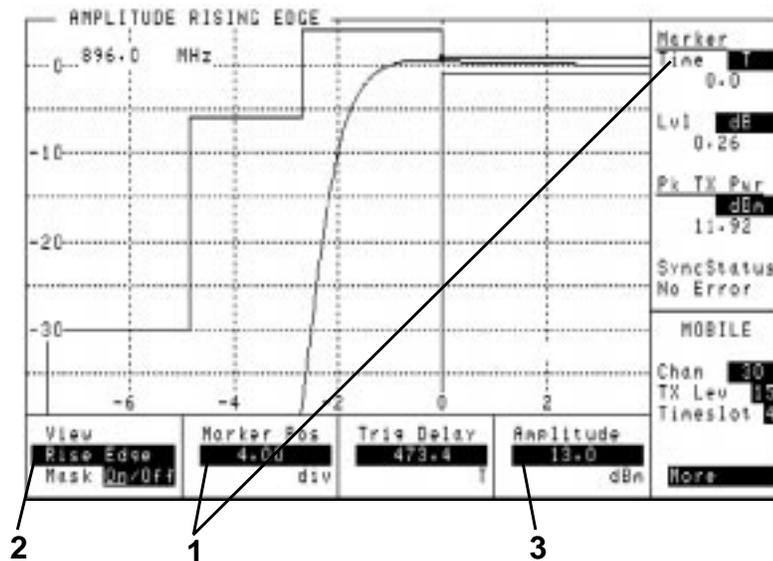

Figure 2-8
The marker (1), see Figure 2-8 on page 2-16 can be used to make a measurement at a discrete point in time along the signal trace. The amplitude at this point is displayed in the top left-hand corner of the screen.